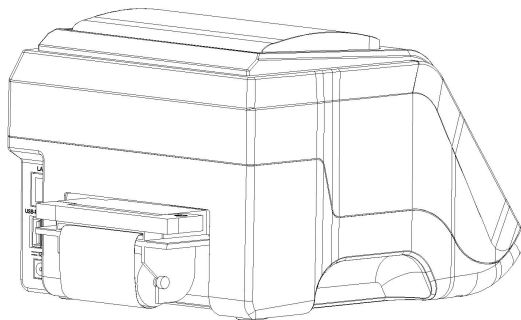

Figure 25: Insert the paper roll shaft into the printer.
④ Insert the paper roll shaft into the printer, as shown in **Figure 25**;